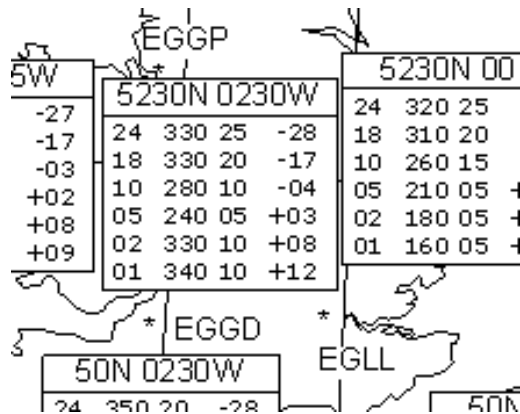

Figure 2: Section of an F214 aviation briefing form
1. Go to the Met office aviation briefing website: <http://www.metoffice.gov.uk/aviation/ga.html>, register as a new user (if not already registered) and get the most recently issued F214 form. An image of part of an F214 form is shown in figure 2. The f214 form shows tables of wind speed and direction vs height data on a coarse grid covering the UK. In the centre of figure 2 you can see the data table for the grid confluence at $52^{\circ} 30' N$ and $2^{\circ} 30' W$. The columns of the table are (left - right): altitude (thousands of feet), wind bearing (degrees), wind speed (knots) and temperature (centigrade)
in the Octave command line and press return. This will open the `TemplateF214` function file for editing. To briefly explain the lines in this file: Firstly an array called `F214` is defined, an array is defined in square brackets and the rows of the array are separated by a semicolon. The data in the array are the same as the data in the central table in figure 2, except that we have added an additional line for zero altitude with zero wind speed. The wind direction and atmospheric temperature are the same as the line above. Next the `F214` array is passed to the function `f214read` which outputs the atmospheric data in a variable called `INTAB4`. This variable is accepted by the simulation functions in the toolbox. Finally the `INTAB4` variable is saved as a binary data file with the name `'intab4_5230N0230W.mat'`